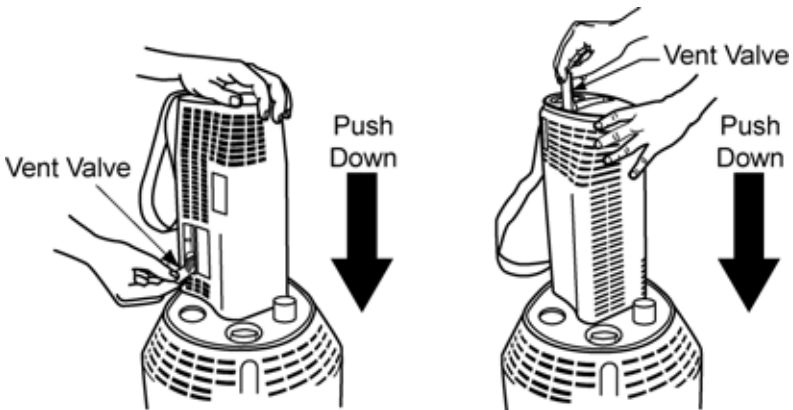
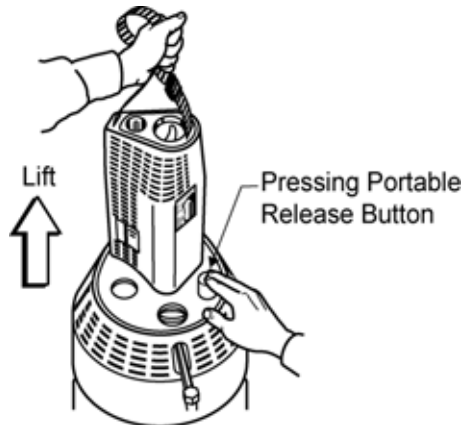

Figure 12: Filling the Portable Unit
Figure 13: Disengaging the Portable Unit
- While holding the Portable unit in the fill position (Figure 12), move the vent valve lever to the open position (90° from the normal “off” position). This will result in a loud hissing noise.
Note: *If the vent valve fails to close and the hissing continues, remove the Portable unit by depressing the Portable release button (Figure 12 and Figure 13) on the Stationary unit. The Portable will stop venting in a few minutes. Allow the unit to warm until you can close the vent valve. The Portable may require two to three hours at no flow to restore adequate pressure for accurate oxygen flow.*
8. Disengage the Portable from the Stationary unit by holding the carrying strap above the unit and depressing the release button (Figure 13). Always hold the Portable unit with at least one hand when attempting to disengage it.